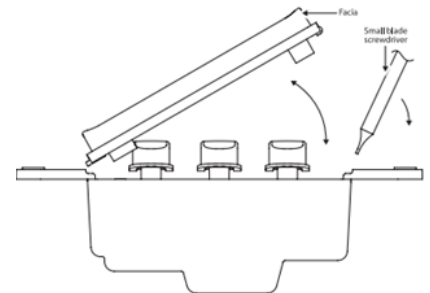

Figure 3
2. Remove the plastic switch bezel that surrounds the buttons. Use a small screw driver or similar to pry the bezel from the switch housing using the detent in the housing at the bottom of the bezel. See Figure 3.